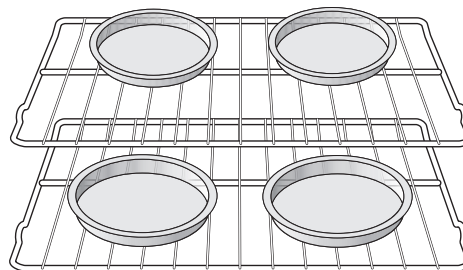

Figure 10: Baking on multiple levels
- For best results when baking cakes or cookies using two oven racks, place pans as shown in Figure 10.